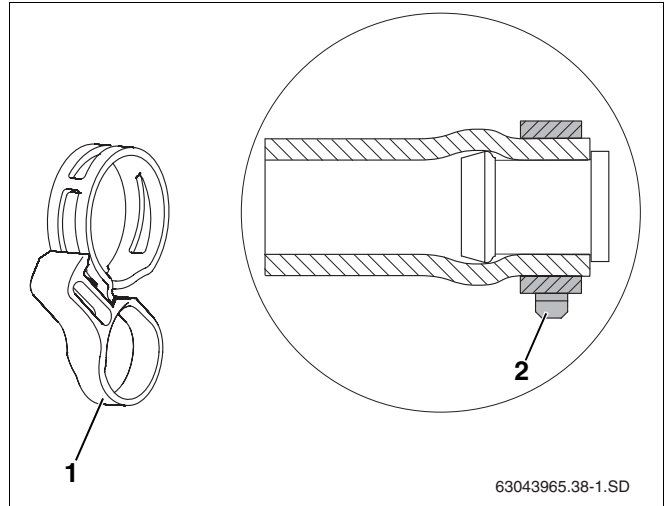

Fig. 17 Hose clip with locking ring, also shown fitted to the pre-assembled dummy plug
- ▶ The hose clip **MUST** be positioned correctly **BEFORE** the release ring (Fig. 17, **Item 1**) is removed (Fig. 17, **Item 2**). Subsequent loosening using pliers can impair resilience.